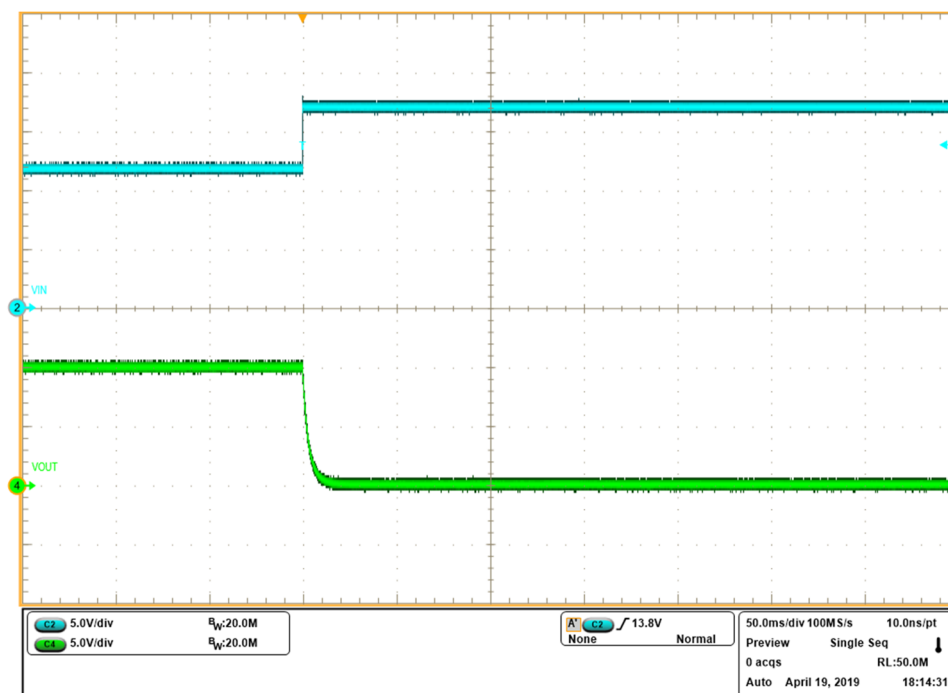

Figure 6. J12 = 1-2, Overvoltage Test (CH2)
4. Adjust the VIN2 power supply voltage to a value less than output lockout limit and turn it ON. Increase the VIN2 power supply voltage to a value above the lockout threshold. Verify the device turns OFF when VIN2 is increased beyond overvoltage lockout threshold (based on the respective jumper setting) and that the FLTB2 RED LED (D5) turns ON. Figure 6 shows overvoltage test for jumper setting, J12 = 1-2.